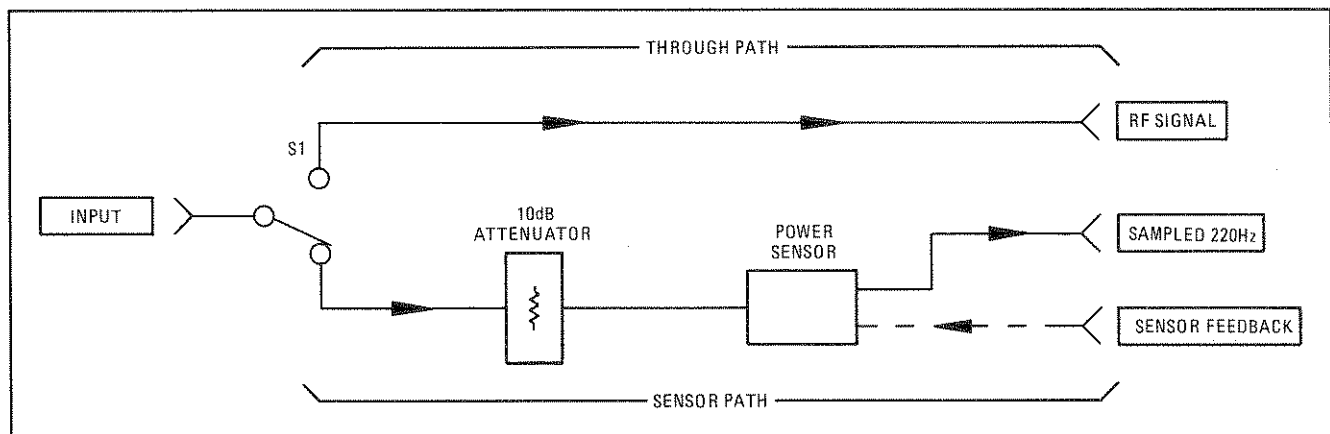

Figure 1. Simplified Block Diagram
**S1 Switch.** The S1 Switch is a 50 $\Omega$ , low SWR, edge-line type. It is used at the input of the Sensor Module to switch the RF path between the power sensor circuitry and a through-path cable. (See Figure 1, "Simplified Block Diagram".) Control lines from the measuring instrument (such as the HP 8901B or HP 8902A) to the switch enable the measuring instrument to remotely select the RF path through the Sensor Module.